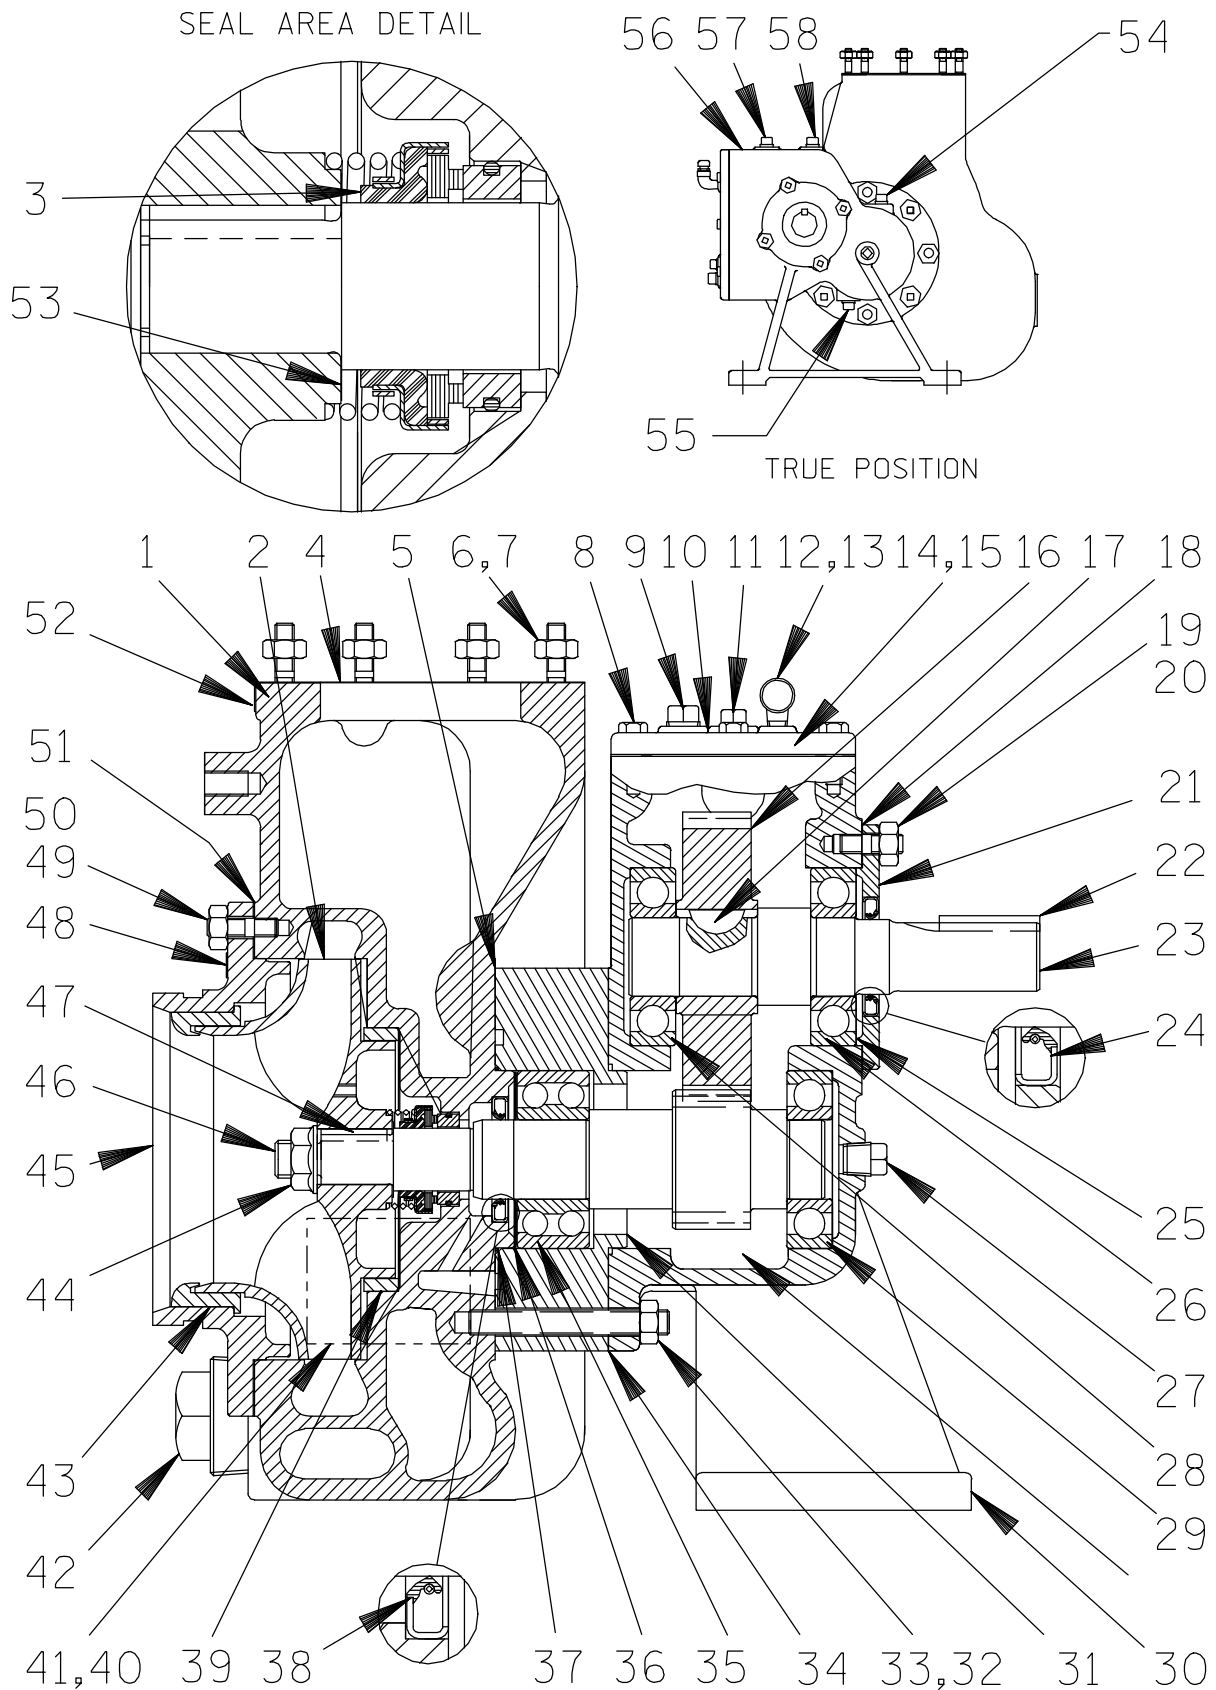

Figure 1. Pump Models 06D17-GAR
This pump requires little service due to its rugged, minimum-maintenance design. However, if it becomes necessary to inspect or replace the wearing parts, follow these instructions which are keyed to the sectional view (see Figure 1) and the accompanying parts list.
Position the oil seal (38) in the casing bore with the lip positioned as shown in Figure 1. Press the oil seal into the bore until fully seated against the bore shoulder.
(Figures 1 and 2)